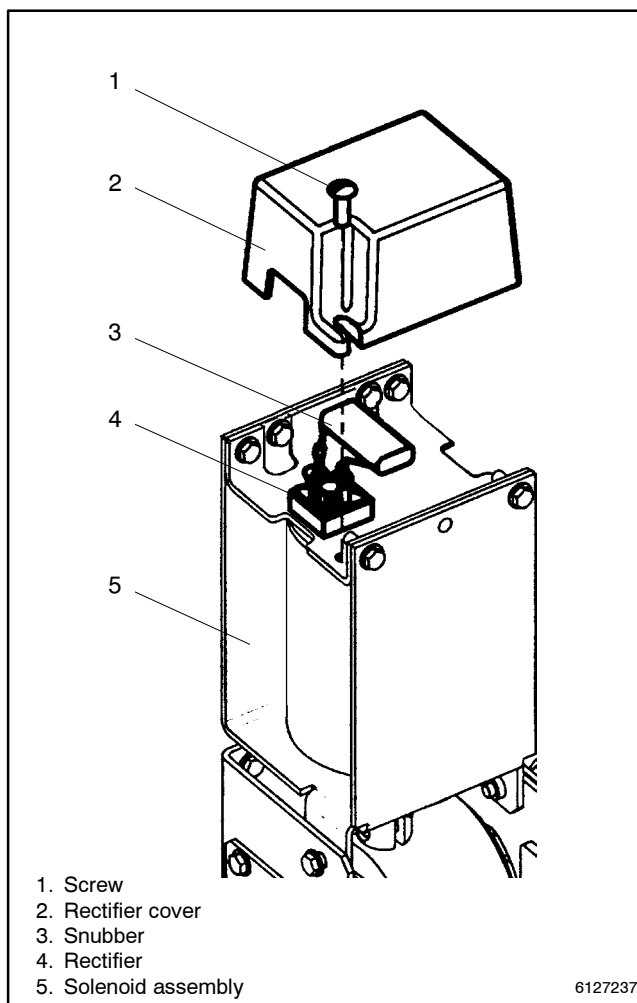

Figure 8-20 Rectifier Cover
1. Remove the rectifier cover and disconnect the coil leads. Use a blade screwdriver to loosen one screw (do not remove it), then remove the rectifier cover. Disconnect the two coil leads from the rectifier. See Figure 8-20.
4. Connect the new coil and reinstall the rectifier cover. Install the quick-connect coil leads onto the rectifier terminals (DC). Then install the rectifier cover onto the top of the solenoid frame. Use a blade screwdriver to tighten the screw. See Figure 8-20.
4. Remove the rectifier cover and disconnect the two wires. Use a blade screwdriver to remove one screw, then remove the rectifier cover. Then disconnect the two wires coming into the solenoid assembly from the harness. See Figure 8-20.
8. Install the new rectifier cover and connect the two wires. Connect the two wires from the harness (previously disconnected) to the rectifier terminals (AC). Then install the new rectifier cover onto the solenoid assembly. See Figure 8-20.